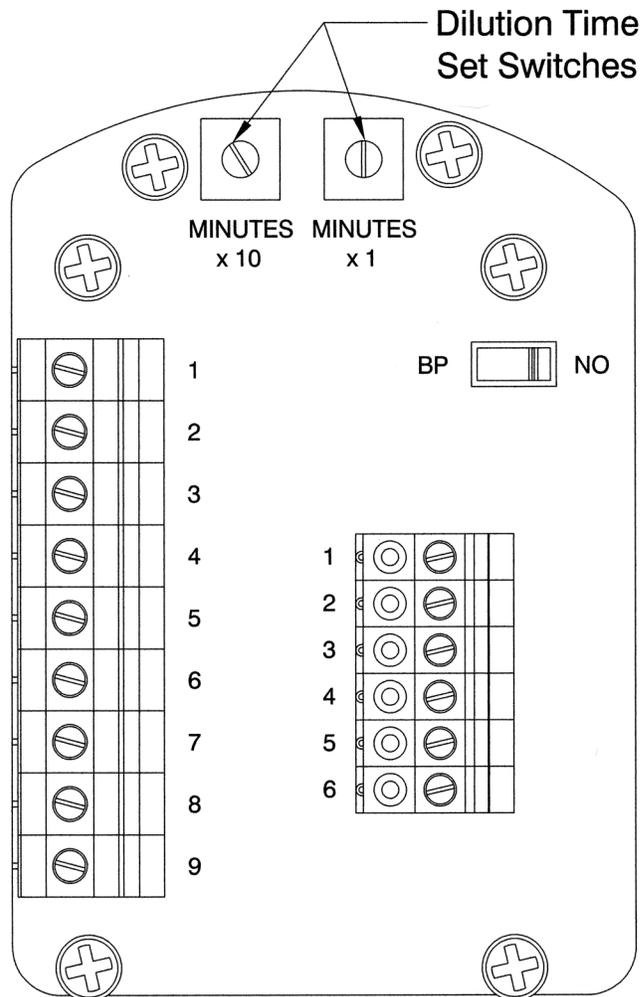

Figure 2
With Automatic Leakage Compensation Purge Gas Inlet Kit solenoid valve wires connected to correct terminal blocks in CYCLOPS X – Purge Controller, XP Version set automatic dilution time cycle to ensure that at least five (5) times the volume of free space in the electronics enclosure is exchanged before power is automatically applied to the electrical equipment. Refer to Figure 2 for location and details of dilution time switches.